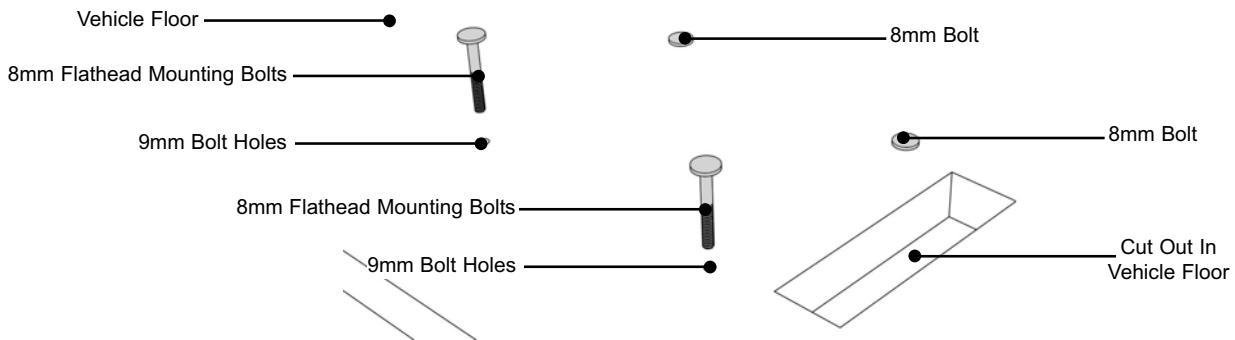

Fig.10 Fit Mounting Bolts
- i. Insert 8mm flat head mounting bolts (not supplied) through the 9mm holes in the floor from the inside, (as shown in Fig 10).